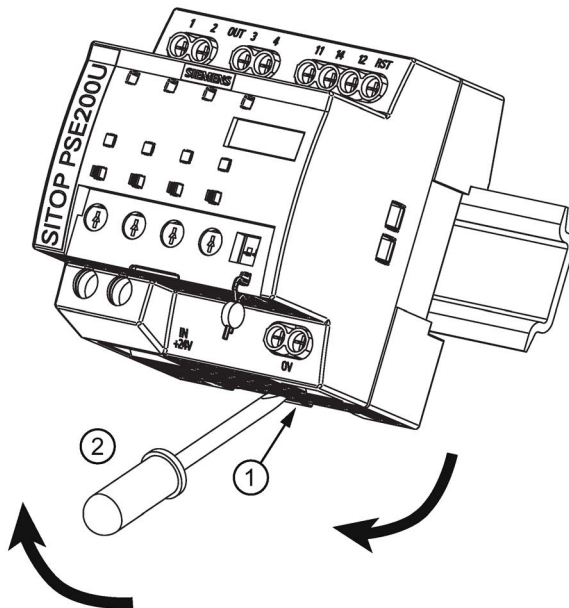

Figure 3-1 Mounting/removal (example: 6EP1961-2BA11)
To remove the device, pull slider ① using a screwdriver ② (see Figure 3-1 Mounting/removal (example: 6EP1961-2BA11) (Page 35)) and detach it at the lower edge of the standard mounting rail. Then you can remove the device from the upper edge of the standard mounting rail.